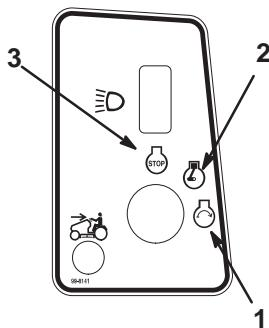

Figure 11
- Turn the ignition key clockwise and hold it in the Start position (Fig. 11). When the engine starts, release the key.
- Turn the ignition key to Off and remove the ignition key (Fig. 11).